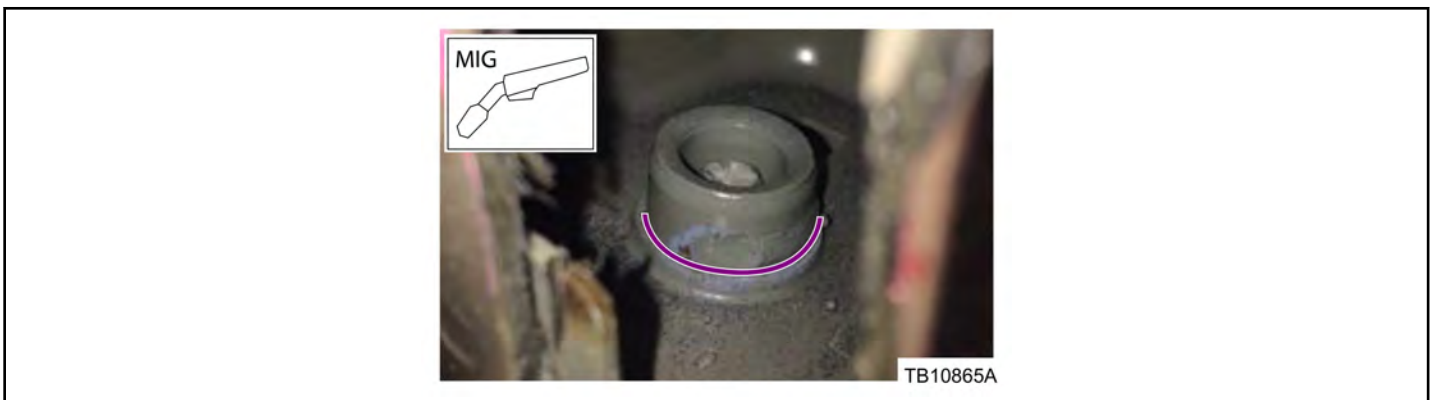

Figure 4 - Article 16-0021
8. Using a MIG welder, weld the barrel nut to the bracket along the seam. The weld bead should span as far along the seam as possible. (Figure 4)